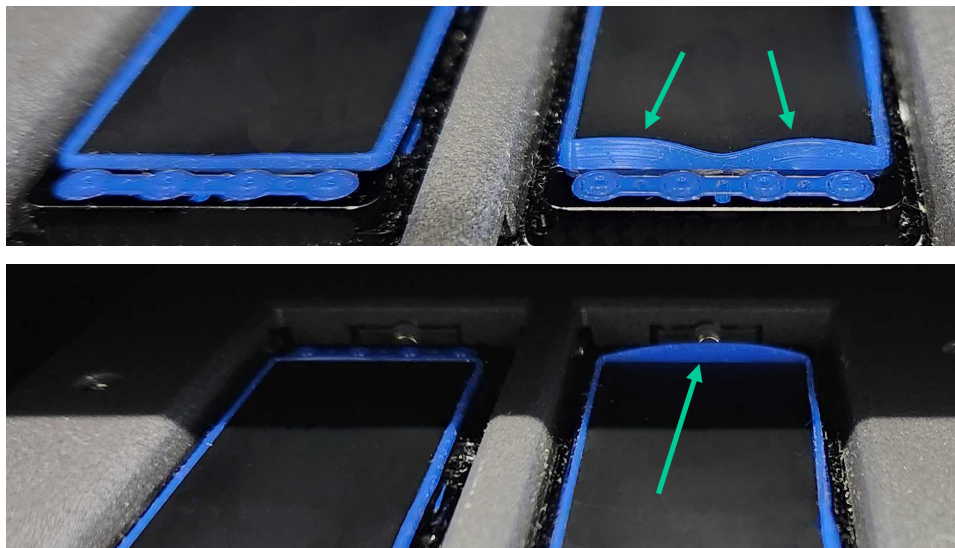

Figure 38 Raised gaskets at the front end and far end of a flow cell position, indicated by arrows.
2. Ensure the gaskets of the flow cell position is completely level by running a gloved finger all the way around the blue perimeter gasket and over the two port gaskets at the front and rear. If a gasket is raised in an area, carefully press the gasket down in that area to make sure the gasket is entirely level (see Figure 38).